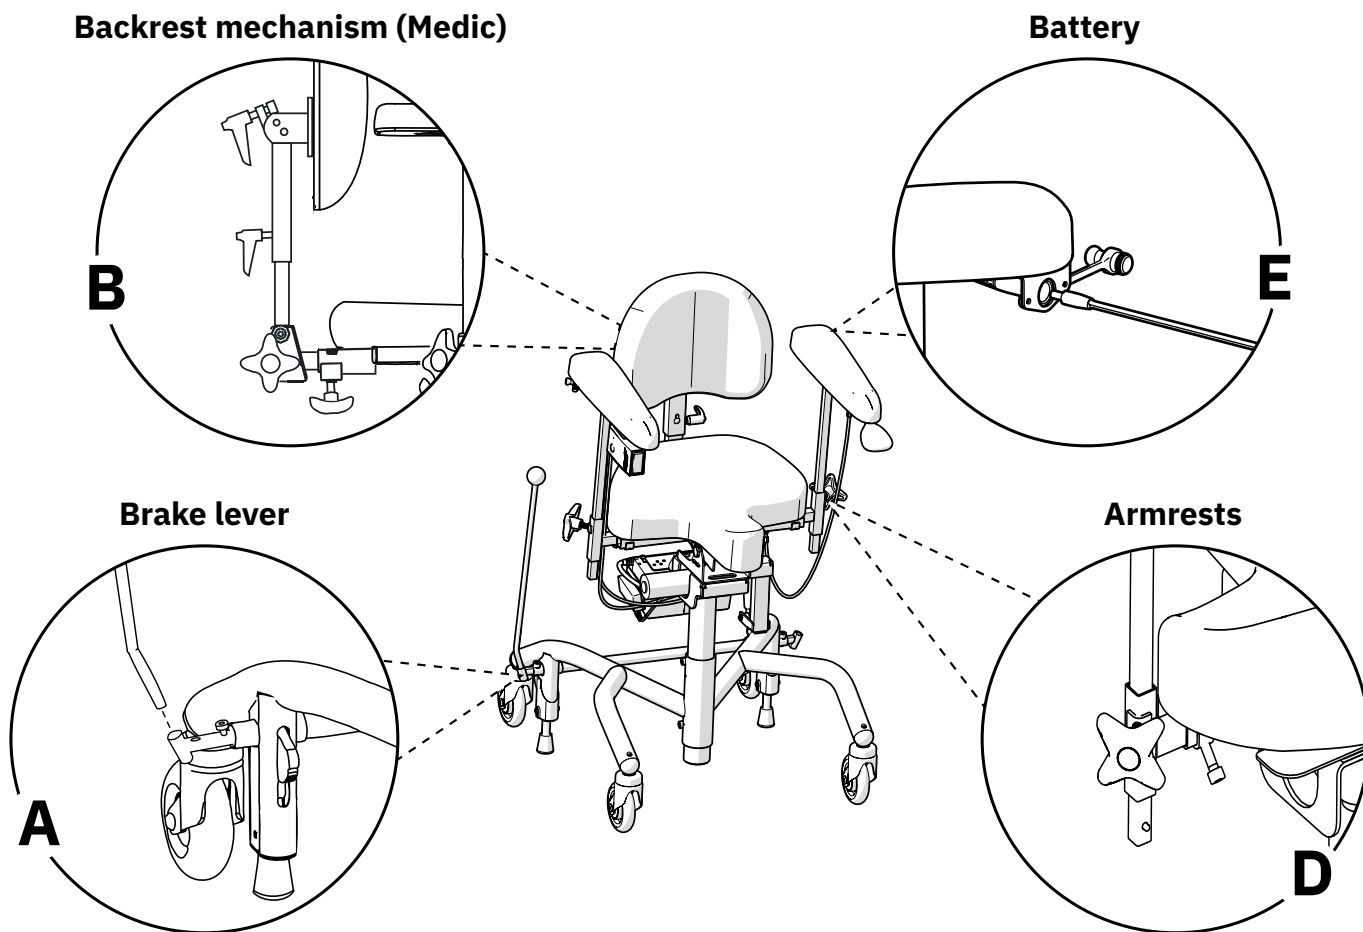

Figure 2.1. Preparations before starting to use models with back support.
For models with a brake lever, insert the brake lever into brake-lever bracket (A) (see Figure 2.1). The brake lever can be placed on the right or left side. For models with a foot brake, no installation is necessary.
For models with back support, insert the backrest pole into the backrest mechanism (B) and adjust to the desired height (see Figure 2.1). Tighten all controls (B). The image shows one of several back mechanisms available for Mercado Medic devices. Other back mechanisms are mounted in the same way, although the appearance may differ from that in the image.
For models with armrests, loosen the armrest control (D) and adjust to the desired height and width (see Figure 2.1). Tighten all controls (D).
Before first use, the battery in electric models must be activated and charged. This is done by connecting the battery charger to the device's charging socket and to a wall outlet (E), see Figure 2.1. The charging socket can be placed in different places on the device. The most common is that the device comes with the charging socket mounted at the rear edge of the left armrest.